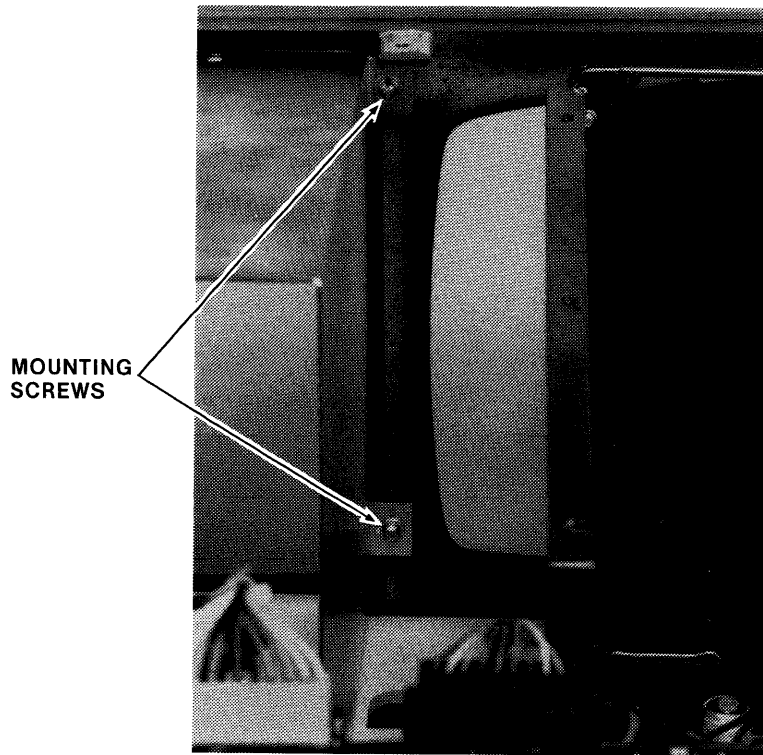
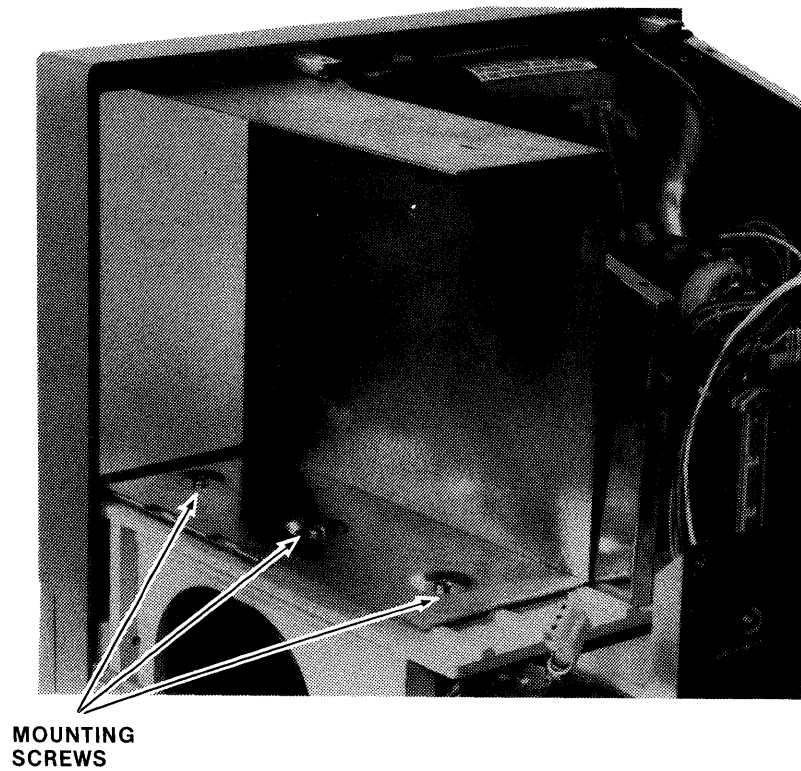

Figure 4-14. Disk Drive Mounting Bracket Mounting Screws
Figure 4-15. Disk Drive Mounting Bracket Installation
7. Install the disk drive mounting bracket with the open side facing outward. Use two 6-32 x 1/4 screws with #6 locking and #6 flat washers to fasten the bracket to the inboard holes next to the CRT, as shown in Figure 4-14. Use three 10-32 x 3/8 screws with #10 locking and #10 flat washers to fasten the bottom of the bracket to the CRT platform, as shown in Figure 4-15.